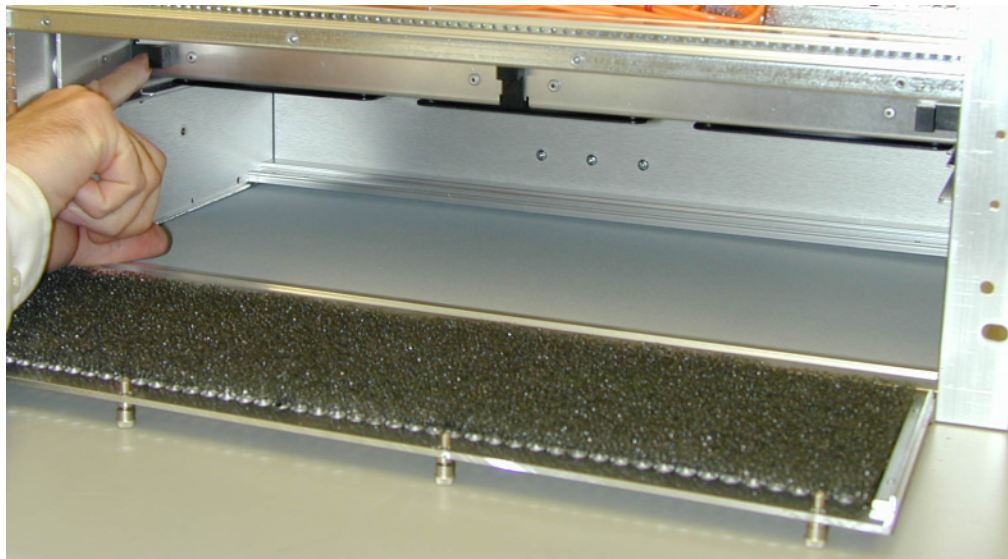

Figure 2-14 Releasing the Fan Assembly
2. Press the fan assembly release tabs, located at the far left and right sides, toward the center, as shown in Figure 2-14.